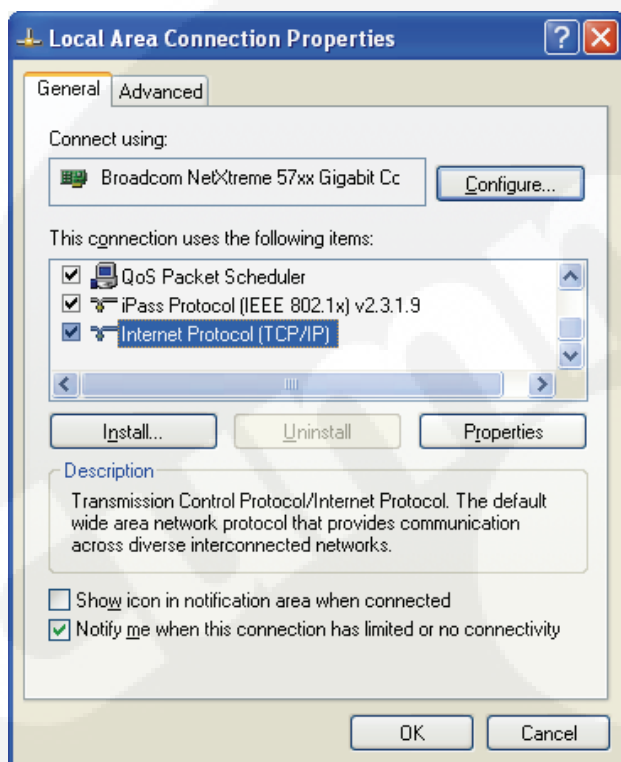

FIGURE 4-9. LOCAL AREA CONNECTION PROPERTIES WINDOW
3. A window is displayed (see Figure 4-9). Scroll down to “Internet Protocol (TCP/IP)”, select it, and click **Properties**.